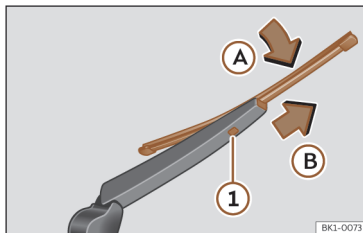

Fig. 180 Changing the rear wiper blade
- Rotate the blade slightly >>> Fig. 180 (arrow A).
- Hold down the release button ① while gently pulling the blade in the direction of the arrow B.
- Insert a new blade of the **same length and type** in the rear wiper arm in the opposite direction to the arrow B until button ① snaps into place.